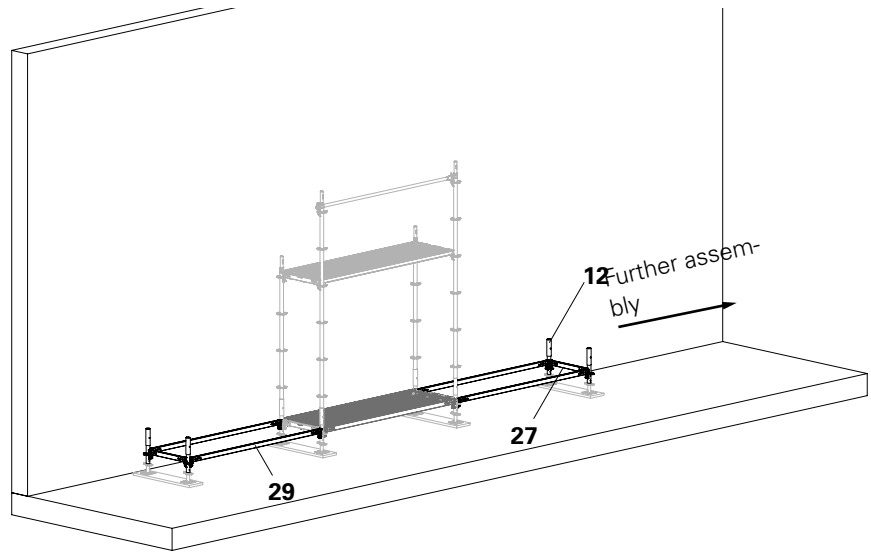

Fig. B3.01
The other scaffold bays are assembled starting from the first scaffold bay. (Fig. B3.01)
2. Connect to existing scaffold bay with horizontal ledger (**29**) and align. Secure the wedges. (Fig. B3.01)